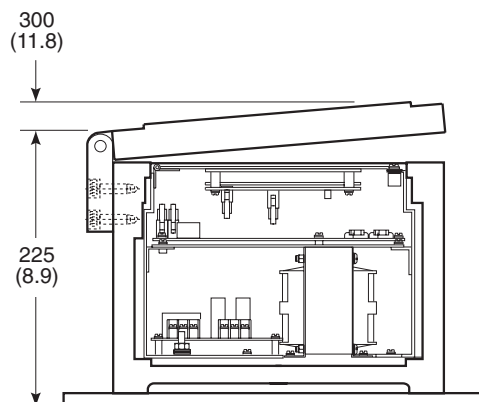

Figure 2-4. Outline of Intelligent Field Transmitter
- a. **Mechanical Installation.** The outline drawing of the IFT module (CENELEC approved) in Figure 2-4 shows mounting centers and clearances. The enclosure is designed to be mounted on a wall. The IFT should be installed no more than 364 m (1200 ft) from the optional HPS or 45 m (150 ft) from the probe if HPS is not installed in the system. Ambient temperature must be between 0°C and 50°C (32°F and 122°F).
Fuse specifications are included in Figure 2-4.